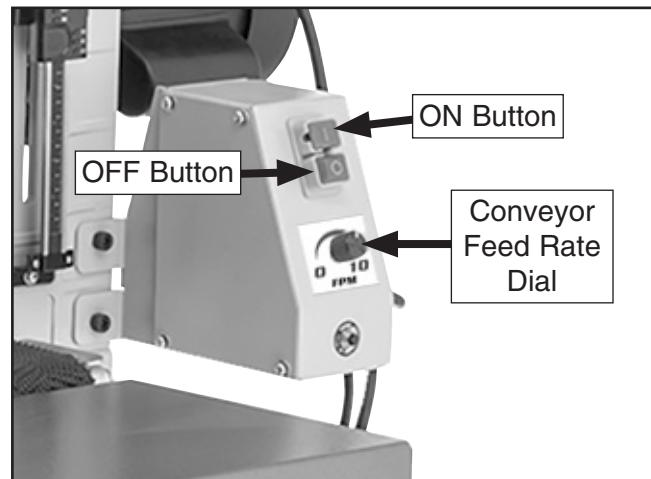

Figure 31. Control panel components.
4. Turn conveyor feed rate dial all the way counterclockwise (see **Figure 31**).
5. Push ON button to turn machine **ON** (see **Figure 31**).
7. Turn variable-speed dial all the way counterclockwise, then push OFF button to turn motors **OFF** (see **Figure 31**). Congratulations! The Test Run is complete.